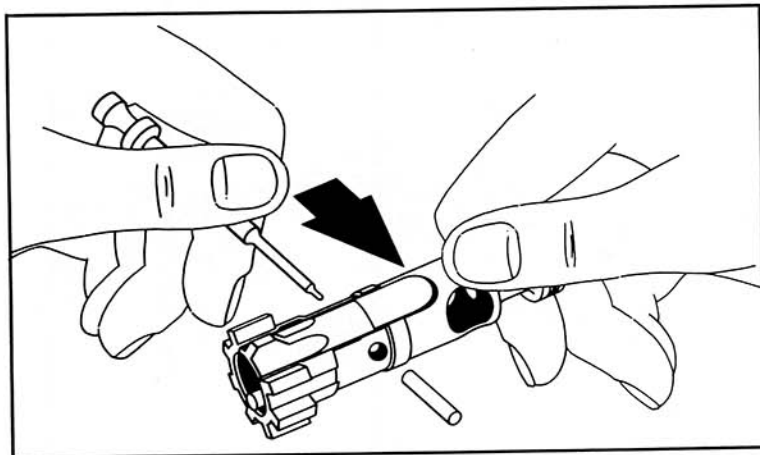
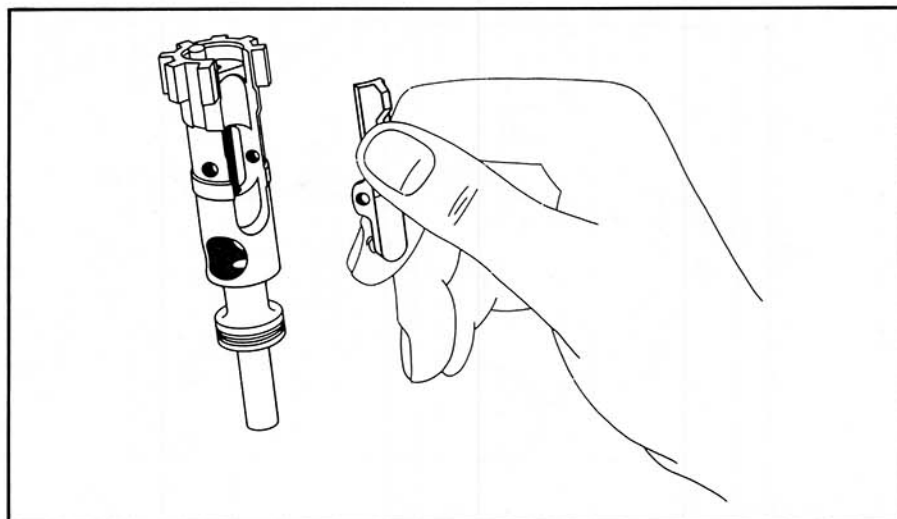

Figure 2-7 Extractor Pin Removed
Figure 2-8 Extractor Removed
- a. Using the firing pin, push the extractor retaining pin out from the bolt, see Figure 2-7. Lift the extractor and extractor pin up from the bolt, see Figure 2-8.